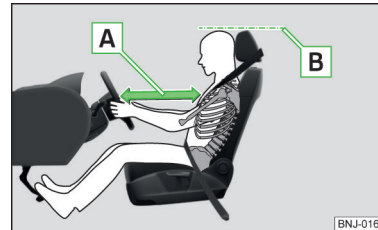

Fig. 1
- ✓ Adjust the steering wheel so that the distance **A** between the steering wheel and your chest is at least 25 cm » Fig. 1. Adjust the steering wheel » page 10, Adjusting the steering wheel position.
- ✓ Adjust the head restraint such that the top edge of the head restraint is at the same level as the top of your head 1) **B** » Fig. 1.
- ✓ Adjust the head restraint such that the top edge of the head restraint is at the same level as the top of your head 1) **B** » Fig. 1 on page 9.
- ✓ Adjust the head restraint such that the top edge of the head restraint is at the same level as the upper part of the head **B** » Fig. 1 on page 9.